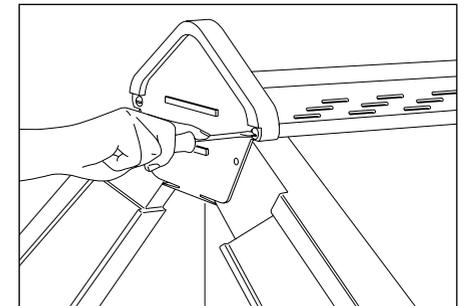

Fig. 7 – Screw fix ridge end cap
- 14 If required, trim flange of ridge end cap to fit between top course verge units (Figs. 9 and 10). Screw ridge end cap to end of dry ridge batten locating 25mm x 8g stainless steel screws into end of circular beads on upper flange (Fig. 7).